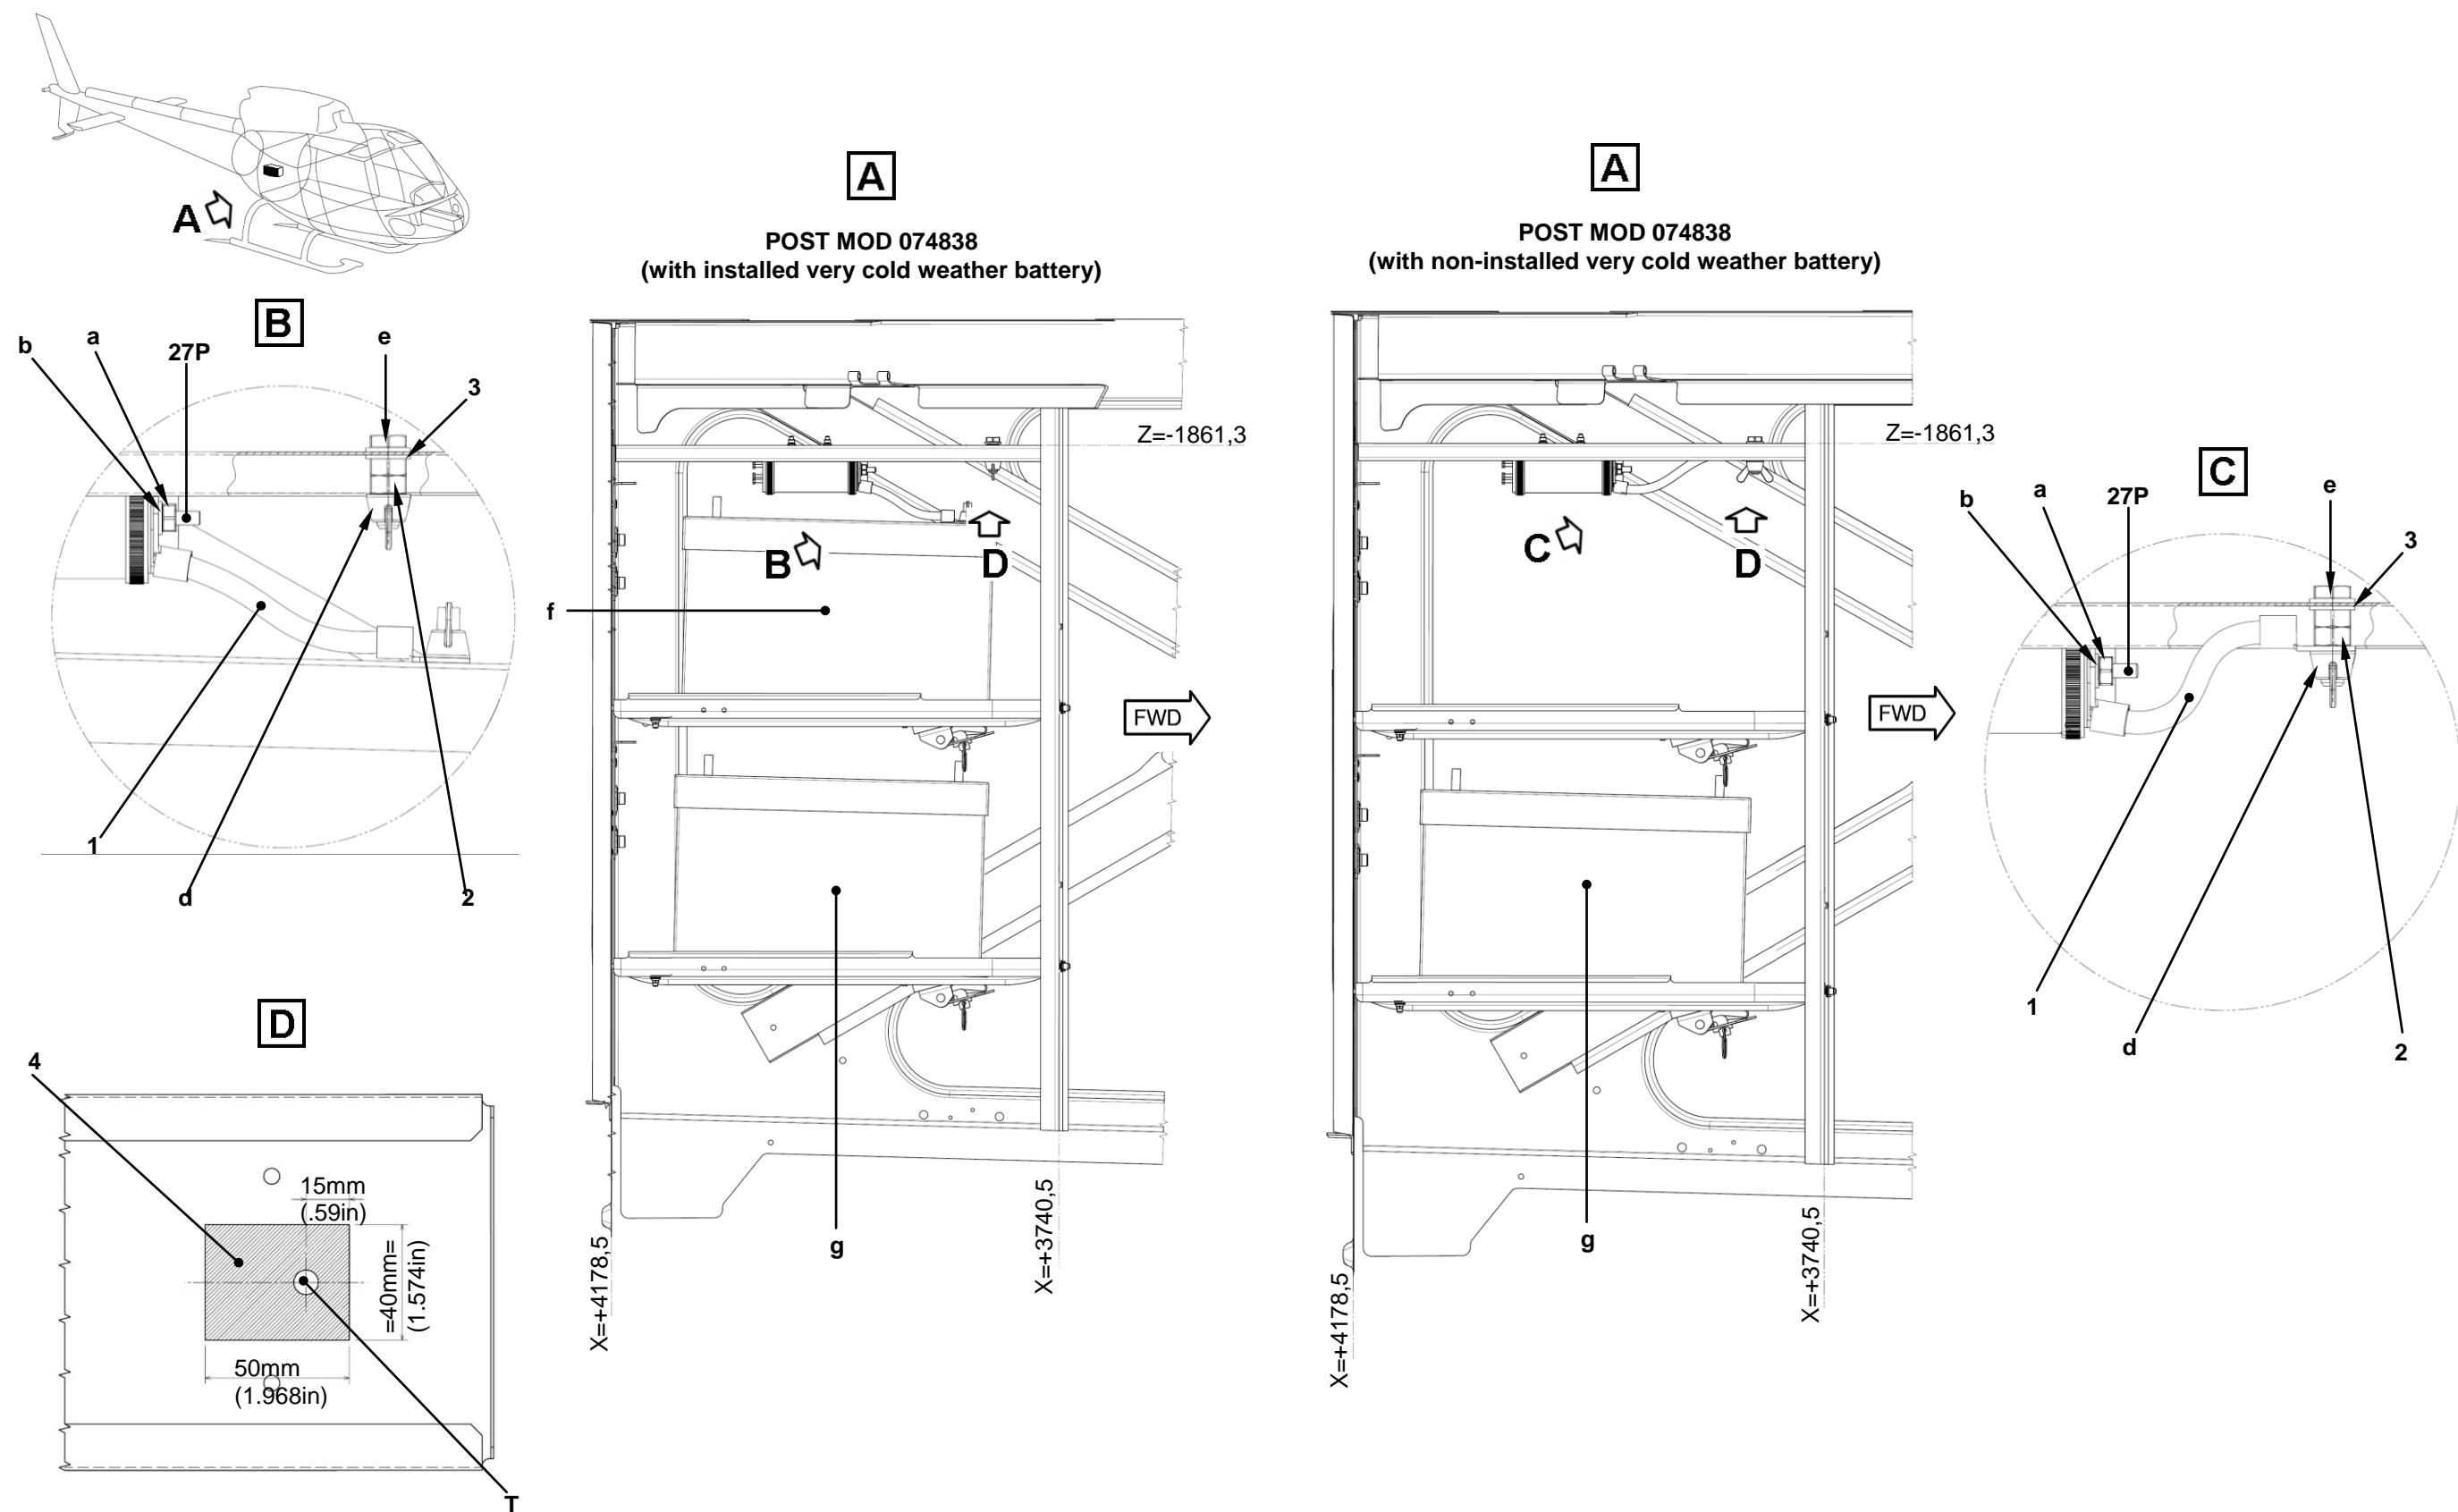

Figure 2
- Clean the bonding surface of teflon tape (4) on the structure as per MTC Work Card 20.04.01.102 and as per Figure 2 Detail D.
- Position and bond teflon tape (4) onto T hole of resting point assembly (e) as per Figure 2 Detail D.
- Install resting point assembly (e) by means of the new polyamide washer (3) and the new polyamide nut (2).
- Connect the new "+BATT" cable (1) to terminal "27P" by means of washer (b) and nut (a).
- Connect the new "+BATT" cable (1) to resting point assembly (e) by means of butterfly nut (d).